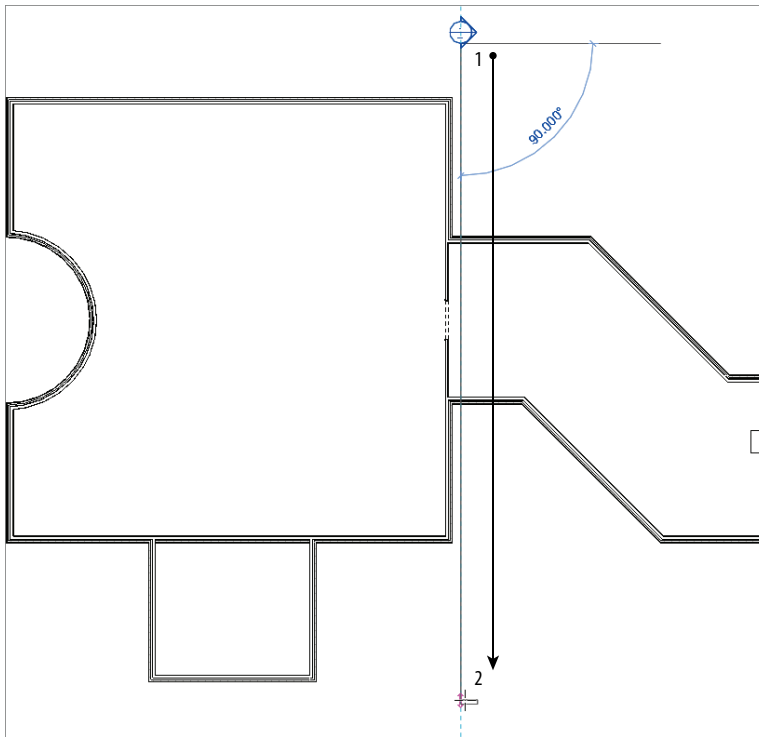

FIGURE 3.33: Placing the section into the model
3. A section takes two picks to place into the model. You must first pick the point for the head; then you pick a point for the tail. To place the section as shown in Figure 3.33, first pick a point above the corridor and to the right of the vertical wall.
4. After you pick the first point, move your cursor straight down the view. When you're positioned directly below the bottom corridor wall, pick the second point (see Figure 3.33). If the section is facing the wrong way, that's fine. You'll fix that in a moment.